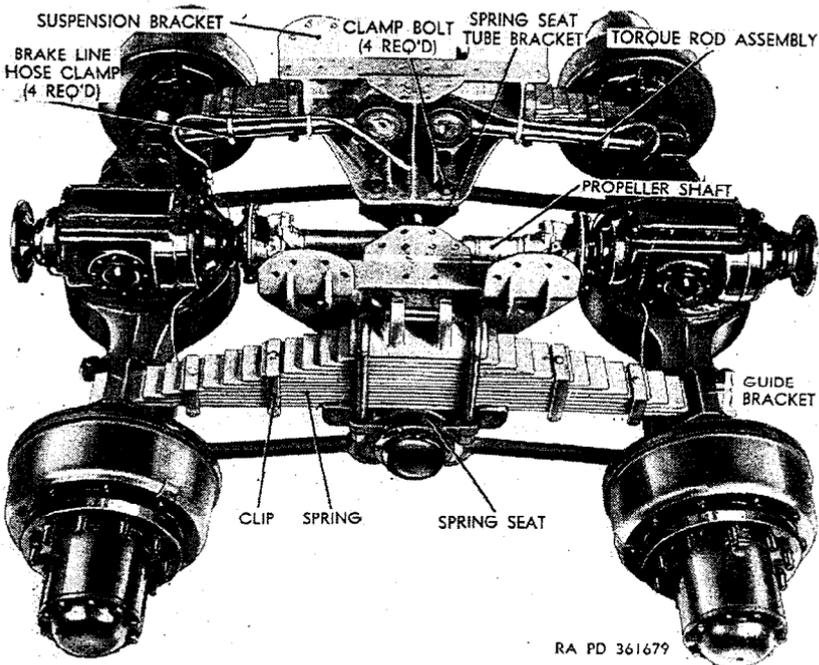

Figure 228. Rear suspension system.
a. Description. Two identical rear axle assemblies, mounted in tandem, are included in the rear suspension system (fig. 228). The rear axle assembly is a hypoid, double reduction, single-speed type. Three identical torque rod assemblies, two at the right end of the axle and one at the left end of the axle, connect each rear axle assembly to the rear suspension brackets. These torque rods not only maintain the correct relative positions of the rear axle assemblies, but also transmit driving and braking forces from the axles to the frame. A differential and carrier assembly, mounted at the top center of the axle housing, transmits power from the transfer-to-forward-rear-axle and forward-rear-axle-to-rear-rear-axle propeller shafts (fig. 213) to the left and right drive shafts inside the axle housings.
- (8) *Position hydraulic jack.* Position hydraulic jack (fig. 99) with axle fixture under the forward rear axle (fig. 234), raise axle on hydraulic jack enough to release front ends of rear springs (fig. 228) in spring guide brackets, and roll axle on hydraulic jack toward front of truck.
- (1) *Position axle assembly.* With forward rear axle supported by hydraulic jack in lowered position (fig. 235), push jack and axle assembly under side of truck. Raise axle on jack until front ends of rear springs (fig. 228) are alined with spring guide brackets on top of axle housing, and push axle toward rear of truck so that spring ends enter guide brackets.